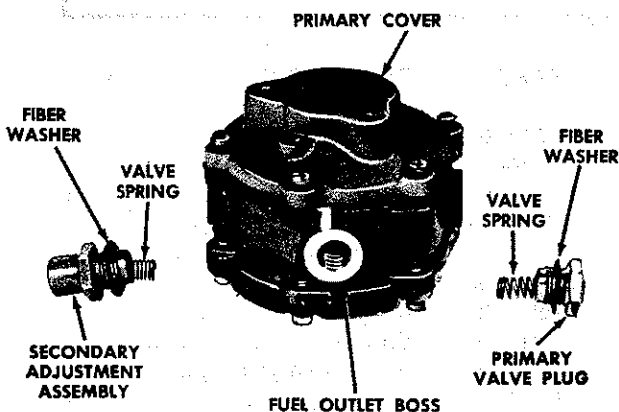

FIGURE 3
3. Use a 13/16" wrench and remove the primary valve plug, secondary adjustment assembly, valve springs and fiber washers, Figure 3. Notice that secondary adjustment assembly is toward operator's left and contains a spring loaded adjusting screw. Also note that primary valve plug is not adjustable and contains a much heavier spring. Figure 3.